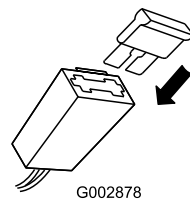

Figure 8
- 2. Install the fuse in the fuse holder (Figure 8).